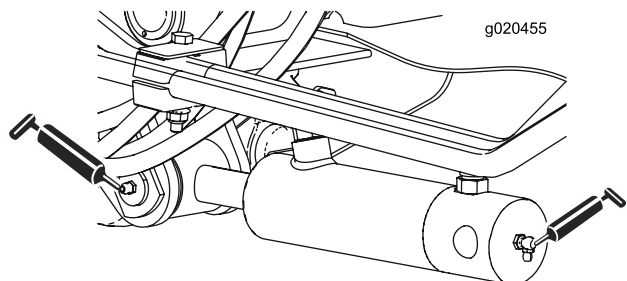

Figure 67
- Lift arm cylinder bushings (2 each) (Figure 67)